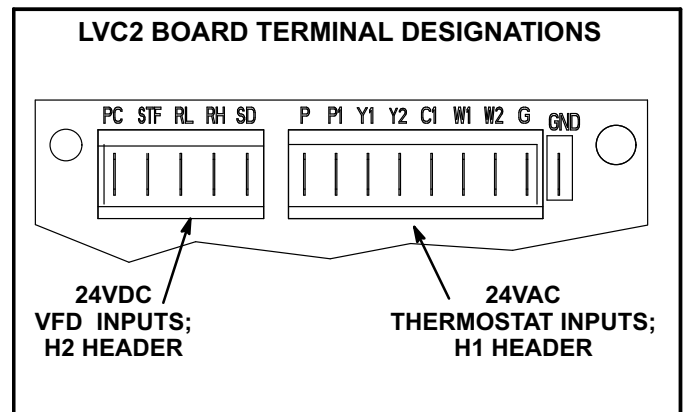

FIGURE 21
3. Check for 24VAC signal at the thermostat blower input (G to GND terminal). See figure 21.